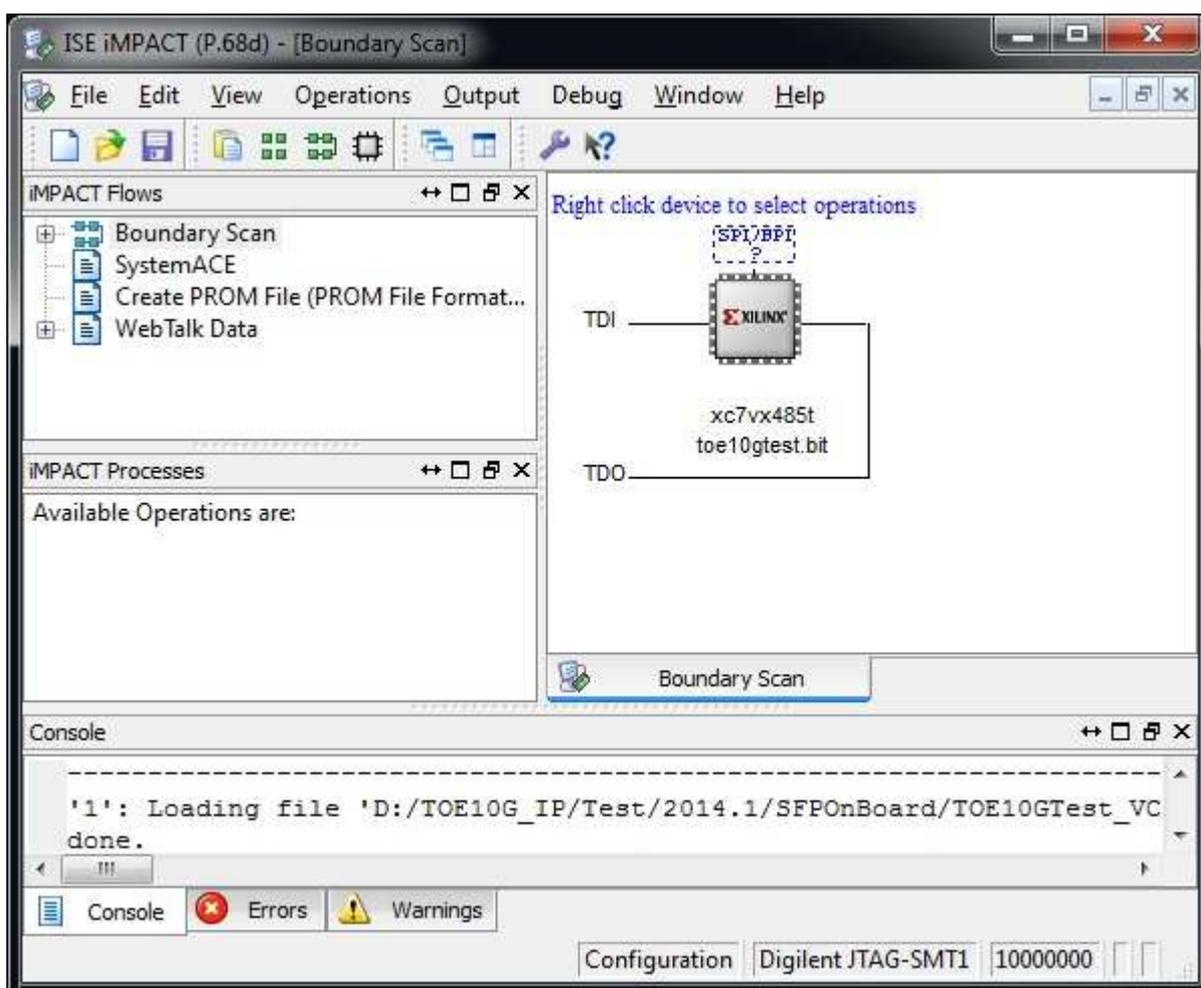

Figure 13 Programmer Environment
- Open iMPACT and download bit file to FPGA development board, as shown in Figure 13.